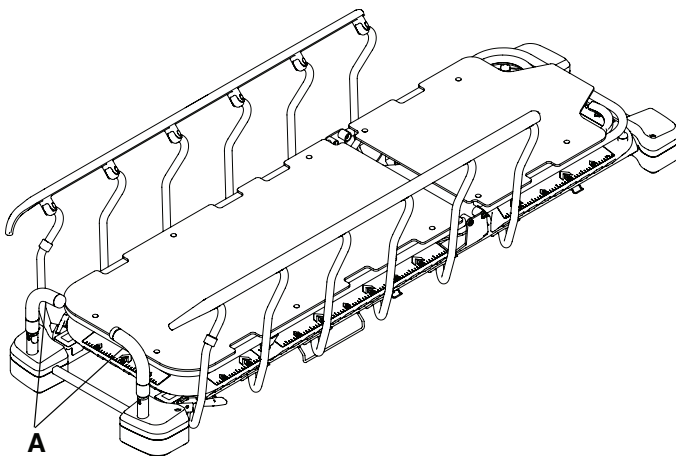

Figure 8 – Positioning the foot end push handles
1. Pull straight up on the foot end push handles (A) one at a time (Figure 8).
2. Pivot the foot end push handles (A) to the use position.